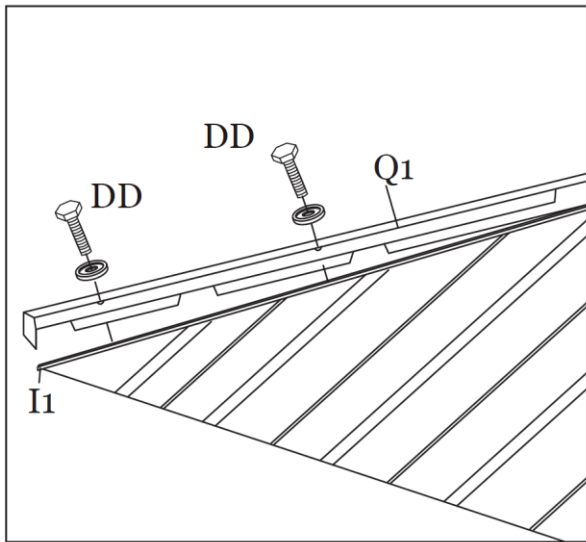

Figure 19-1
Step 19A: CORNER TRIM: Attach the Main Roof Corner Trim (Q1) to Main Roof Corner Support (I1) using Bolts/Washers (DD). See Figure 19-1.